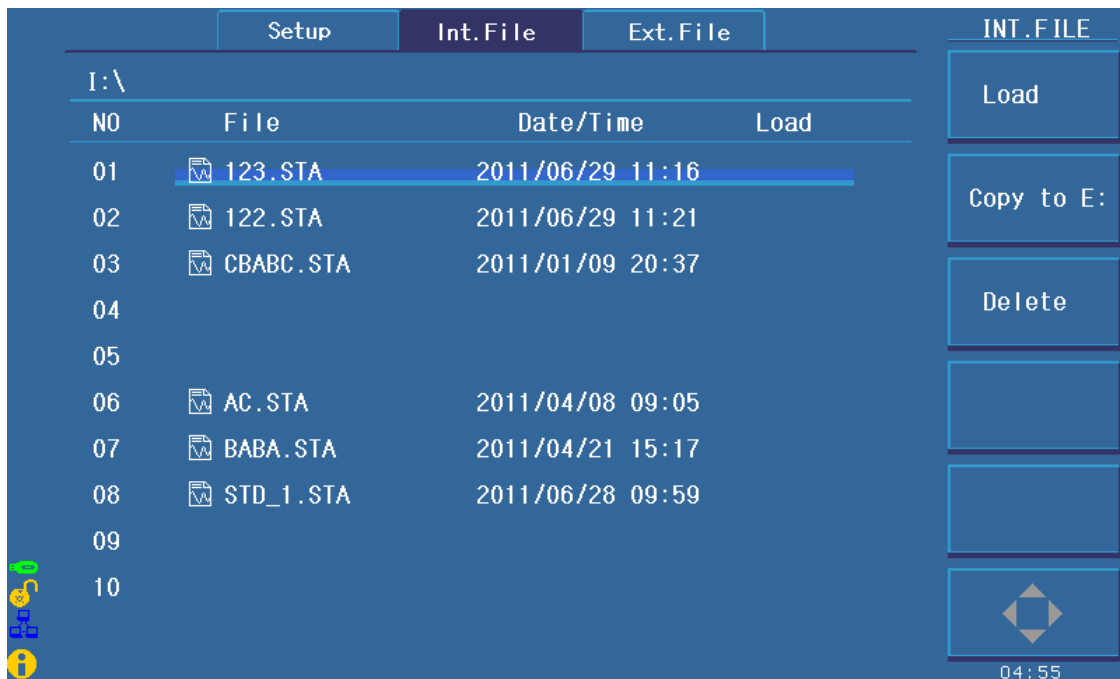

Figure 5-2 Internal File
TH2883 series can save parameters that are set by user to the internal non-volatile memory in file format. User can load the file to use these parameters instead of resetting. The internal memory can store 100 groups of files including files of measure parameters, compare parameters, etc. Figure 5-2 shows the page of internal file.
- ✧ **Load** Press this key to load a file stored in the internal non-volatile memory. As figure 5-2 indicates, using the arrow key or the roller can select the needed file. Press **LOAD** to load the file. If the selected file is needed to load, press **YES**; otherwise, press **NO**.